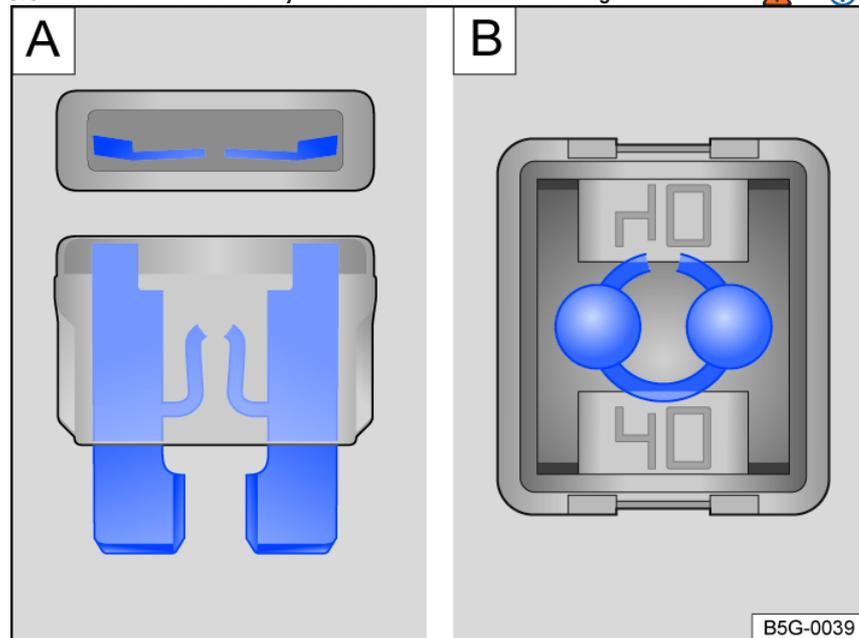

Fig. 179 Blown fuse: **A** flat connector fuse **B** block fuse.
- A blown *flat connector fuse* (ATO®, MINI®) has metal strips that have burned through, which you can see through the transparent housing from above and from the side fig. 179 .
- A blown *block fuse* (JCASE®) has metal strips that have burned through, which you can see through the transparent housing from above fig. 179 .